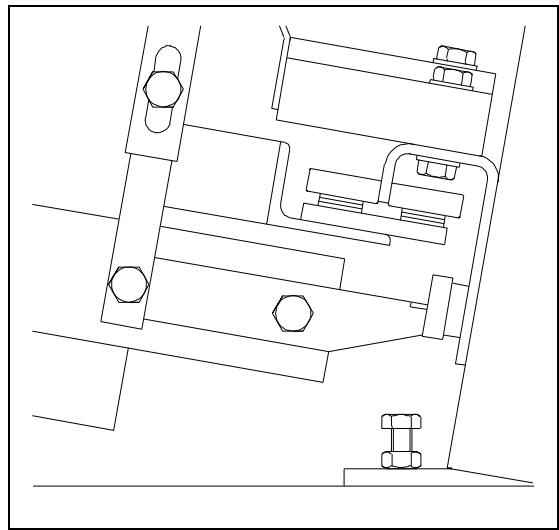

Figure 10
- 1 Check if the slideway can be locked easily in both top and bottom notches (Figure 10).